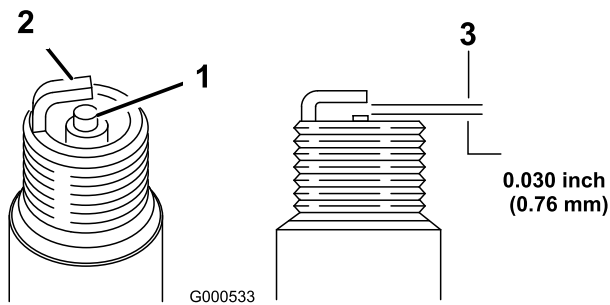

Figure 18
- Set the gap on the plug to 0.76 mm (0.03 inch) (Figure 18).